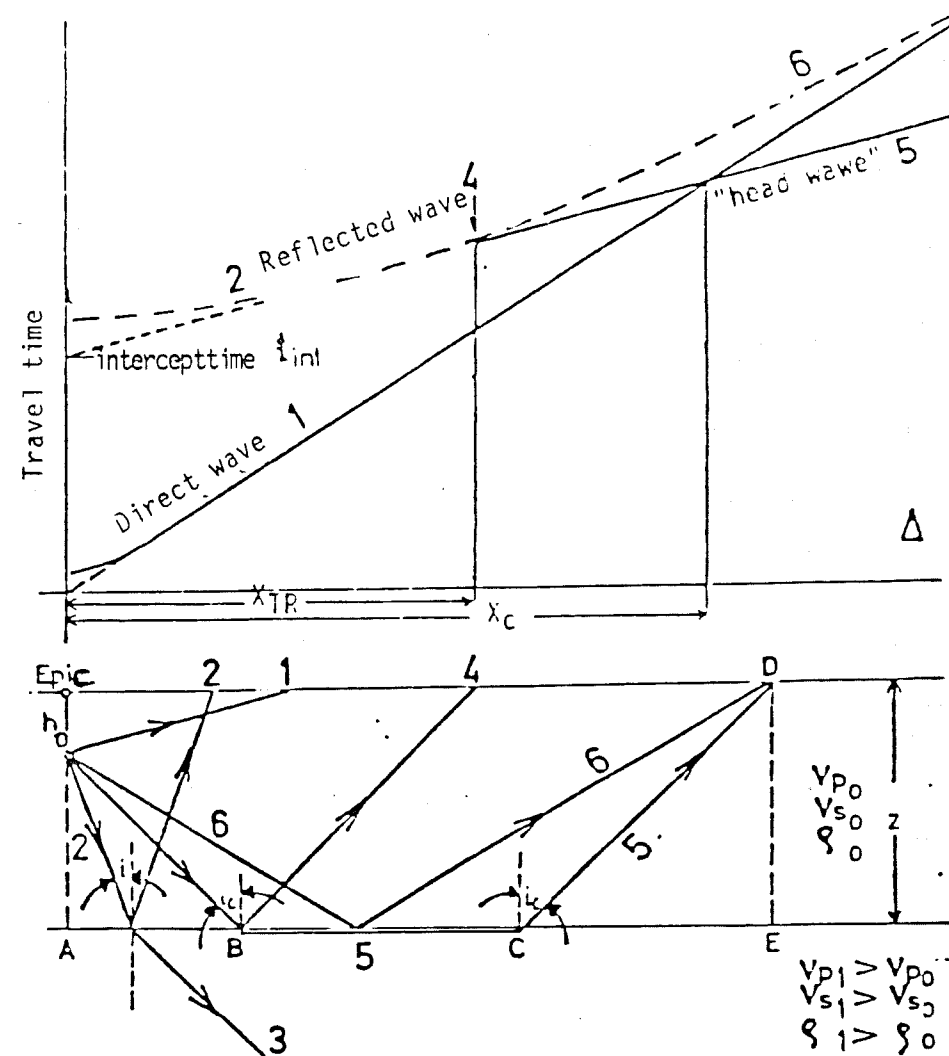

Fig 7 Seismic wavepaths and traveltimes in a two-layer case.
We are now going to look at a two-layer case i.e. a layer with a lower seismic velocity resting on an infinite substratum with a higher seismic velocity. In this case we can differ between the following wavetypes (fig. 7):
If the angle of incidence is greater than the angle of total reflection then all of the wave energy will be reflected (wavepath 6 in fig. 7).
- c) Of special interest is the wavepath that meets the boundary at point B in fig. 7 (critical angle i_c for total reflection). Here a diffracted wave will be generated that travels along the interface surface.